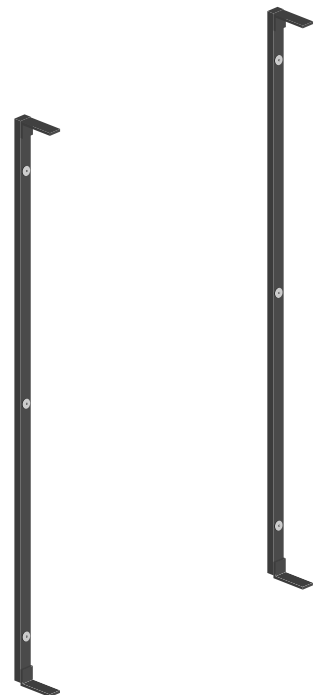

Figure 5: Mounted wall brackets
4. Remove the brackets from the frame and attach them to the wall using the appropriate fasteners (hex lag screws, wall anchors, molly bolts, wood carriage screws, etc.). See Figure 5.